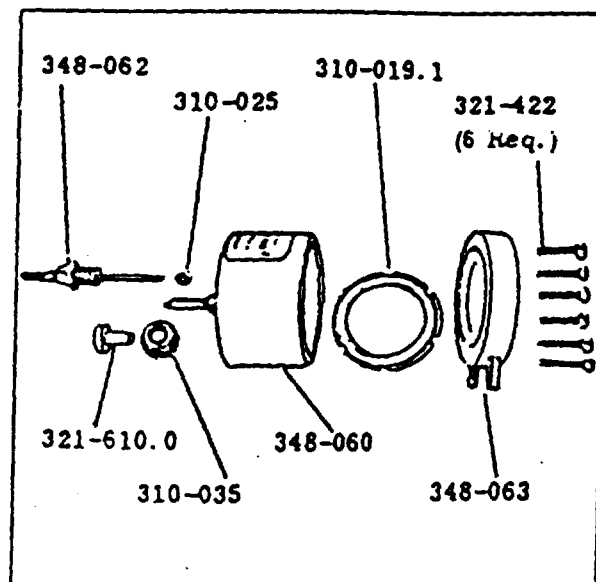

Figure 15: Parts identification for 514-010 Oxygen Cell.
(b) Remove the nylon screw and seal ring on the electrical plug side of the cell. Refer to Figure 15 and unscrew the zinc electrode (banana plug nearest the blue dot on the side of cell) and remove it together with its O-Ring seal.
8.1.2 Reactivation of Oxygen Cell (Refer to Figures 15, 16, 17)